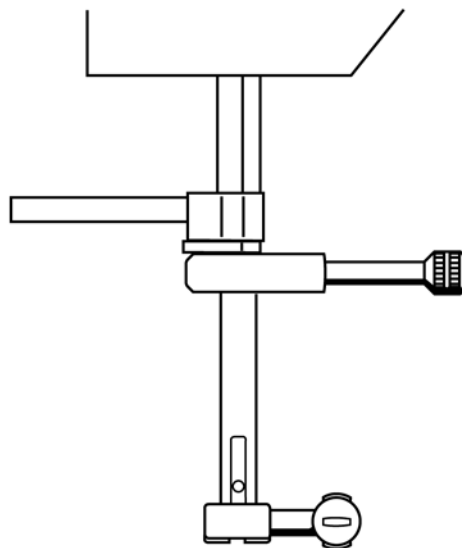

Fig. 8
- Turn the handwheel in sewing direction until the needle-rise clamp is up against the spacer (fig. 8).
- Re-fit the needle-rise clamp and repeat the procedure as described in "Check" until the needle bar has moved upwards by 2 mm and the clamp is in contact with the spacer (fig. 8).